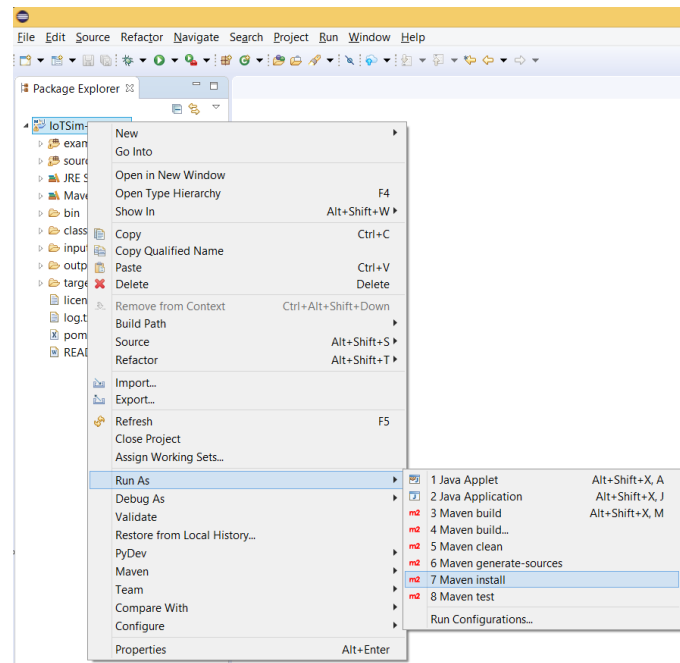

Figure 2.6
**Step 6:** Right click on IoTSim-Osmosis project and click on Maven install that found under Run As option (see Figure 2.6)